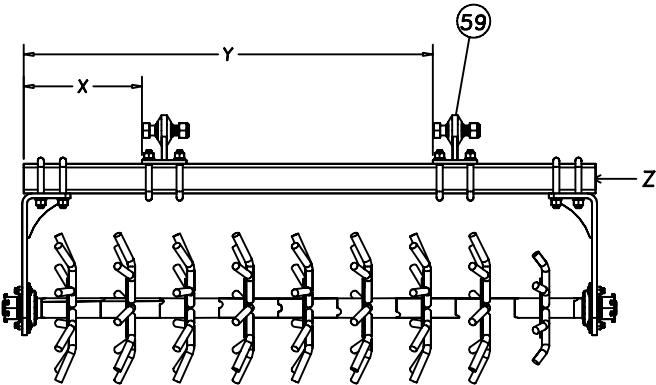

FIG. 4
Your initial action is to locate the correct drag frame (61). Bolt the drag frame to the rear drag plates located on the rear of your Great Plains Turbo Till, using 5/8x1 ½ hex bolts [(43) 802-051C] with 5/8" hex nuts [(25) 803-021C] and 5/8" lock washers [(26) 804-022C]. The rolling harrow gangs shown in figure 4 will come to you assembled. Your next step is to locate the ball joint assemblies [(59) 589-064H]. Figure 4 shows you the dimensions to mount the ball joint assemblies on the rolling harrow gang.
Mount the rolling harrow brackets [(60) 589-057H] to the under side of the drag frames according to the dimensions in figures 1-3, using a 5/8x3x4 ½ u-bolt [(44) 806-183C] with a lock washer and nut. You may tighten the u-bolts on all the brackets that are closest to the rear of the machine. Leave the front brackets loose to slide until the rolling harrow assemblies are hung under the frame. Use the 1x4 hex bolt and 1" nylock nut through the harrow brackets (589-057H) and ball joint assemblies [(59) 589-064H] to hang the rolling harrow gangs under the frame. Be careful to put the proper gang in the proper location and be sure that the assemblies are positioned correctly as shown in figure 4. When all gangs are hung under the frame and positioned in the correct location, tighten the remaining u-bolts.